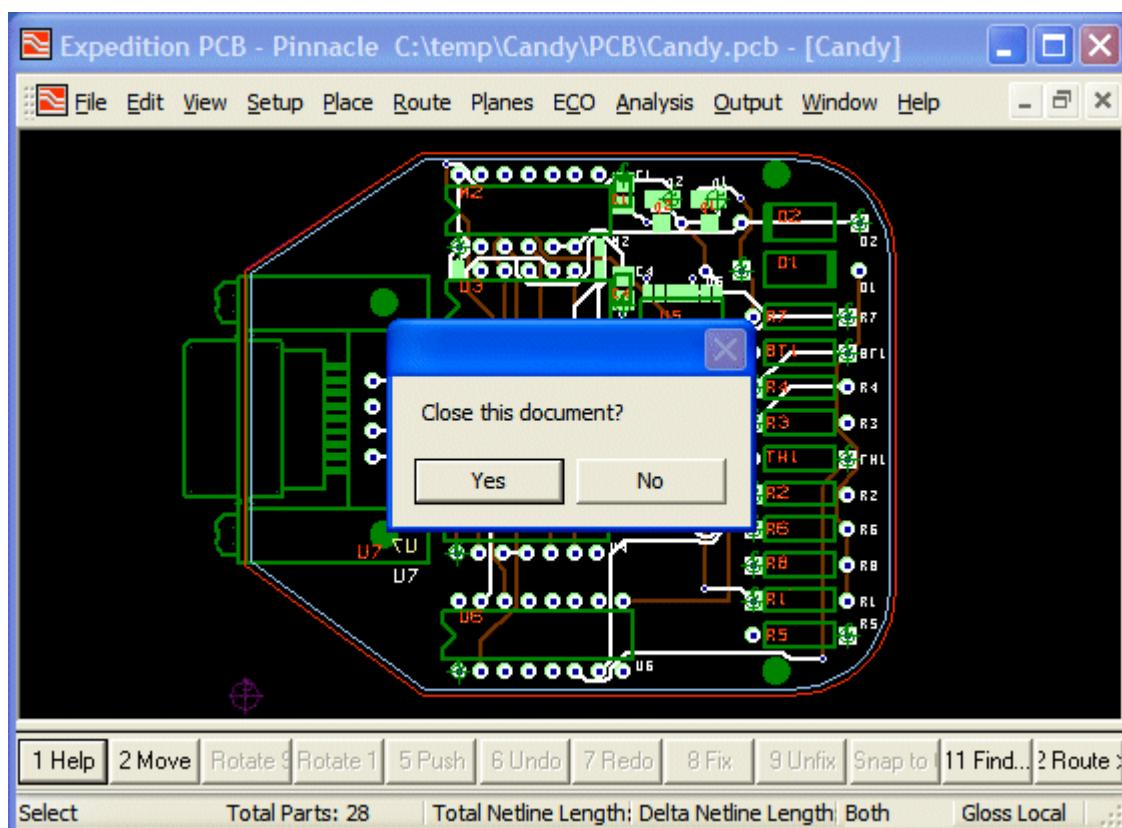

Figure 11-3. Using an event to invoke an out-of-process event handler script.
- 5) Observe the *MsgBox()* with its **Yes** and **No** buttons appear on the screen as illustrated in Figure 11-3.